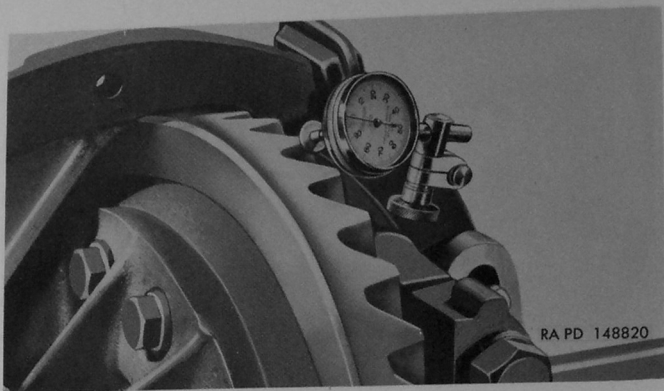

Figure 145. Checking drive gear and drive pinion backlash with dial indicator 41-I-100.
- (2) *Seating bearings.*—Back off bearing adjusting nut (V) on plain side of bevel gear approximately two notches, stopping nut in position to permit bearing adjusting nut lock (G) to engage nut. Tighten bearing adjusting nut (A), on tooth side of drive gear, to seat bearings. Back off same nut until free of bearing; then tighten enough to eliminate all end play in bearings.
- (3) *Preload bearings.*—When bearing adjusting nut (A), on tooth side of drive gear, has been tightened to remove all play in bearings ((2) above), tighten an additional one or two more notches to preload bearings, stopping at a position where bearing adjusting nut lock can be installed.
- (4) *Checking backlash.*—Install a dial indicator in manner illustrated in figure 145. Oscillate drive gear slightly and note dial indicator reading. Backlash should be 0.005 to 0.008 inch.
- (5) *Adjusting backlash.*—If backlash is less than 0.005 inch, loosen bearing adjusting nut (V) on plain side of bevel gear